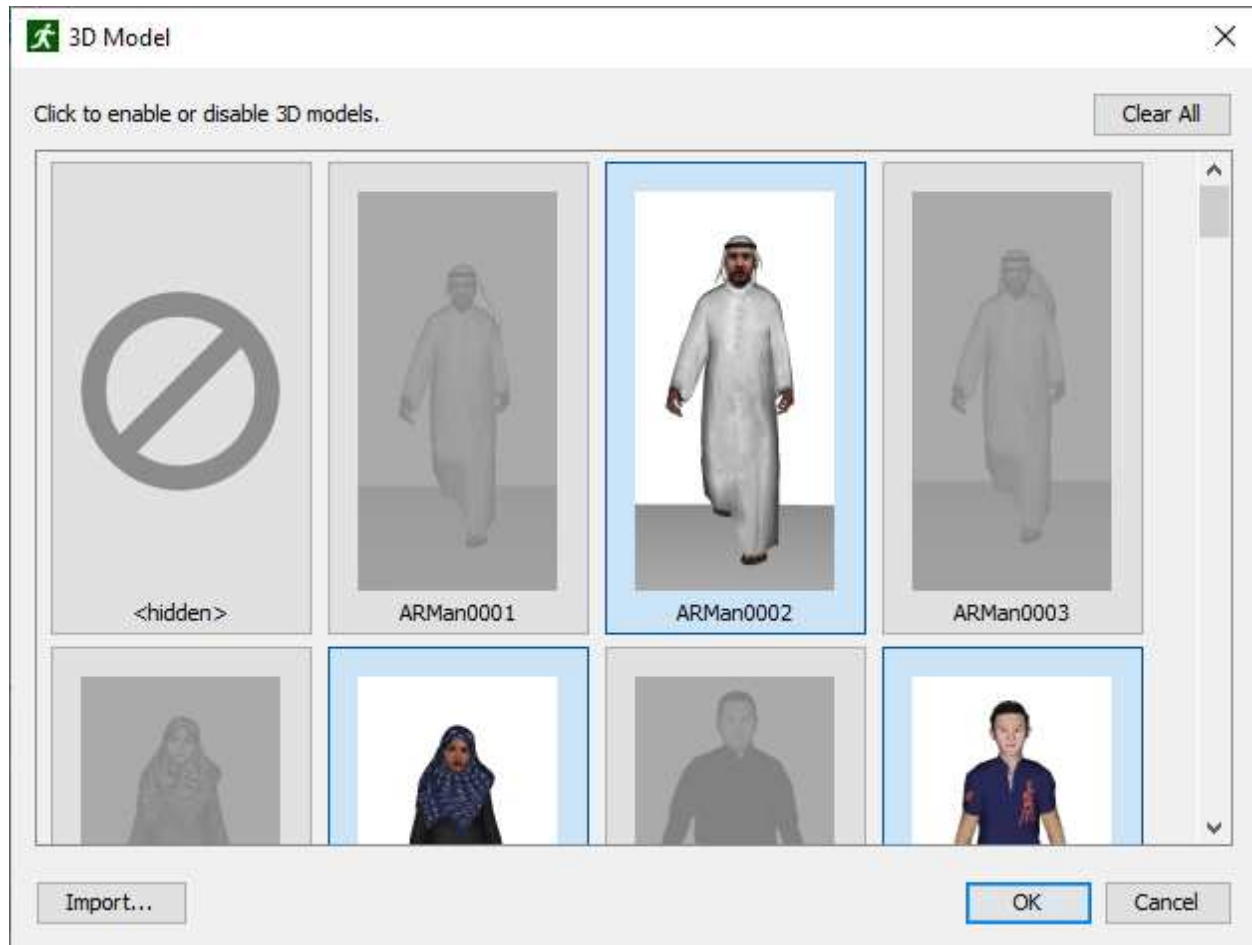

Figure 90. An example of the 3D model dialog.
1. Click **Edit** on the **3D Model** row. This will open the **3D Models** dialog (see Figure 90).